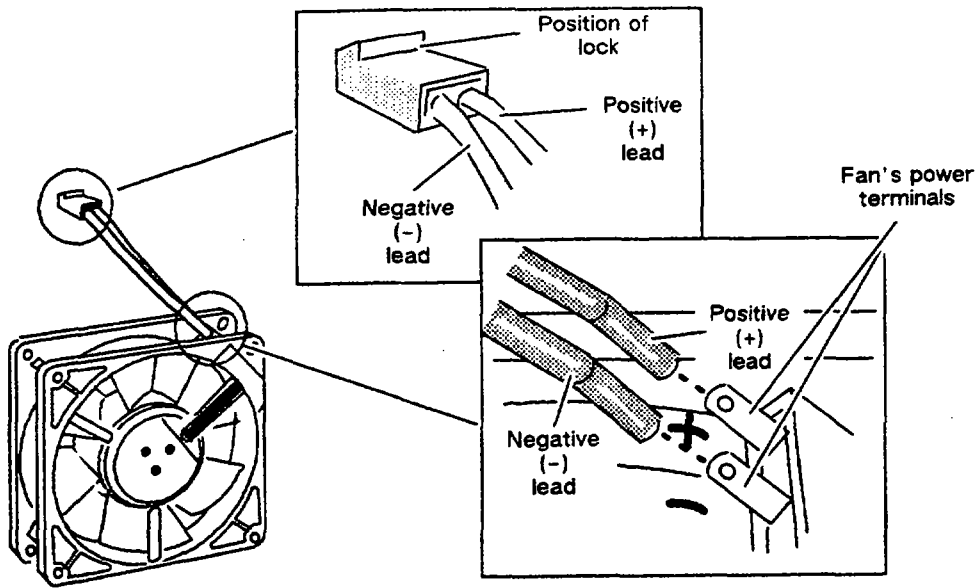

Figure 4-18 Connecting the Fan's Power Leads
5. Connect the power leads to the positive (+) and negative (-) terminals of the replacement fan, as shown in Figure 4-18.